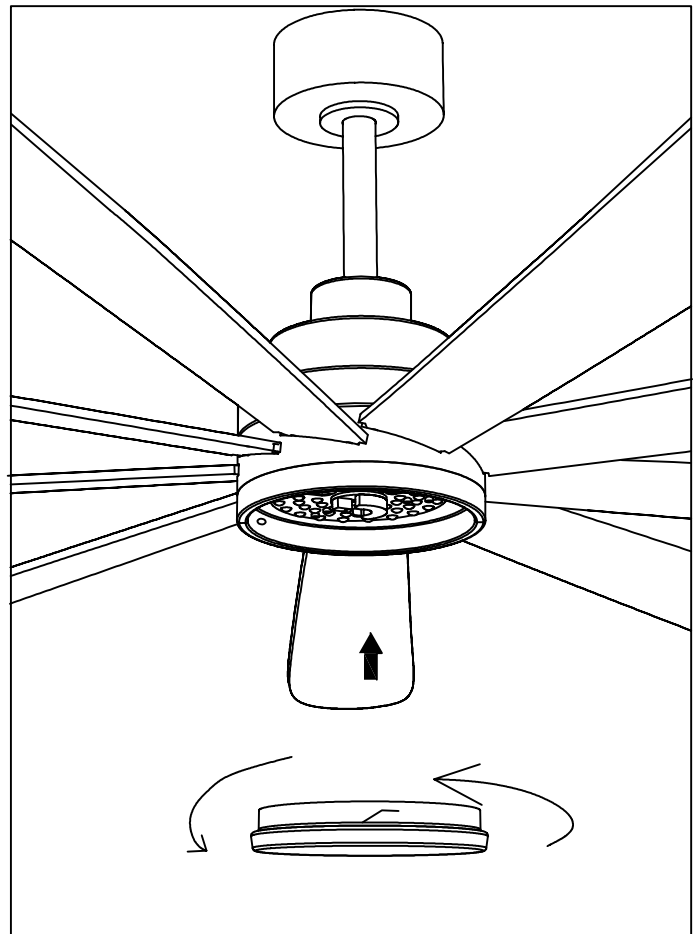

Figure 6.2
- Finally install the lampshade inside the lampshade chassis by rotating clockwise to complete the installation. (Figure 6.2)